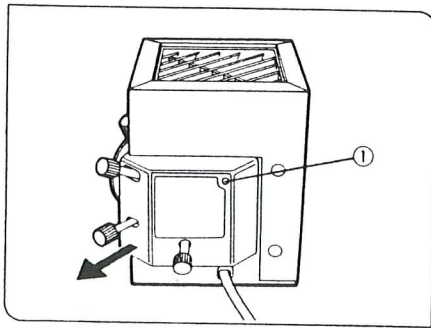

Fig. 20
### Mounting the Halogen Bulb (Figs. 20, 21)
1. Remove the socket clamping screw ① using the Allen screwdriver provided with the microscope frame. (Fig. 20)
4. Tighten the socket clamping screw (① in Fig. 20) using the Allen screwdriver.